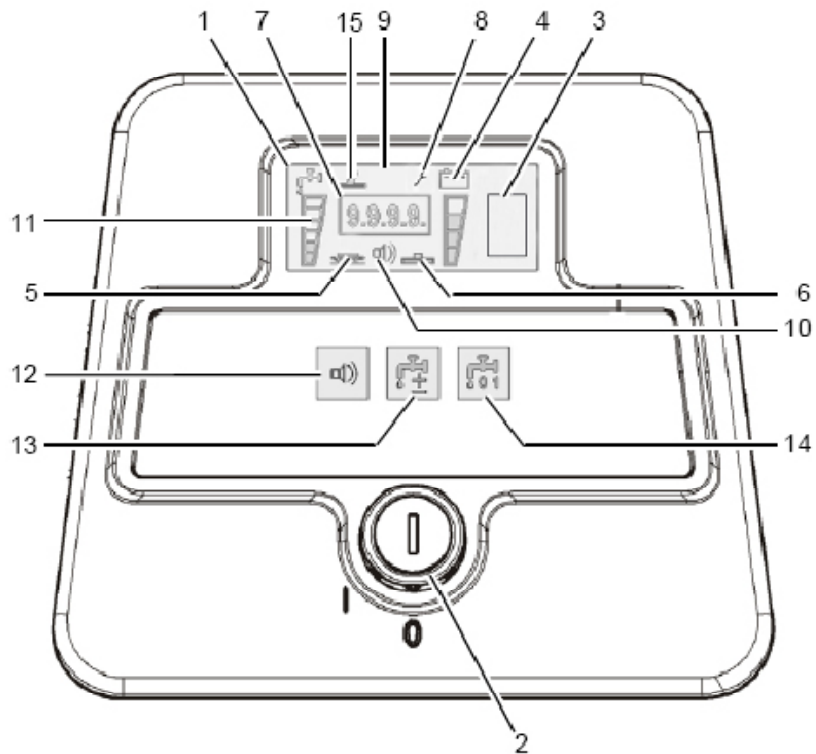

Fig.4
2. Use hand lever (Fig. 4/3) to lower squeegee. Vacuum motor turns on automatically.
5. Use pedal (Fig. 4/9) to lower brush head.
6. Use forward/reverse lever (Fig. 4/1) to adjust speed and direction. Increase the scrub brush pressure if required with pedal (Fig. 4/10) .
Display (Fig. 4/1)
Battery Charge Indicator (Fig. 4/3)
LSD indicator (Fig. 4/4)
Symbol For Scrub Brush (Fig. 4/5)
Symbol For Vacuum Motor (Fig. 4/6)
Hour Meter (Fig. 4/7)
Service Indicator (Fig. 4/8)
Symbol For Silence Kit (optional) (Fig. 4/10)
Clean Water Metering Symbol (Fig. 4/11)
Clean Water Metering Switch (Fig.4/13)
Clean Water Supply ON/OFF Switch (Fig. 4/14)
Scrubbing Tool Symbol (optional) (Fig. 4/15)